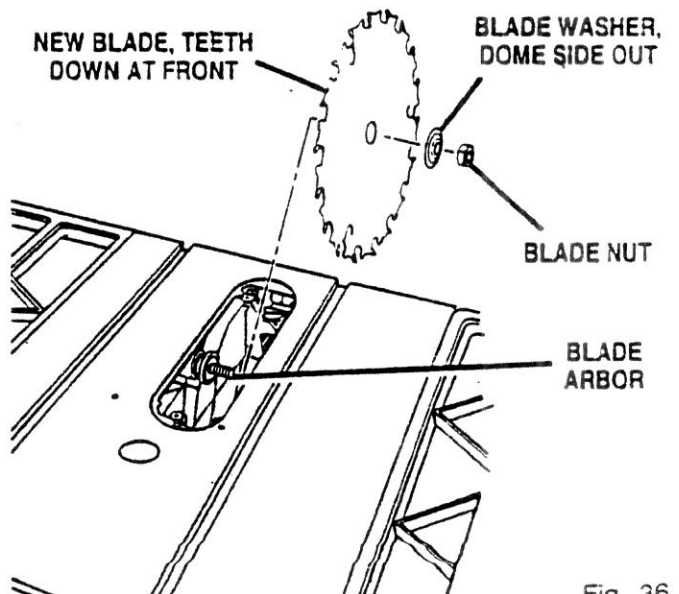
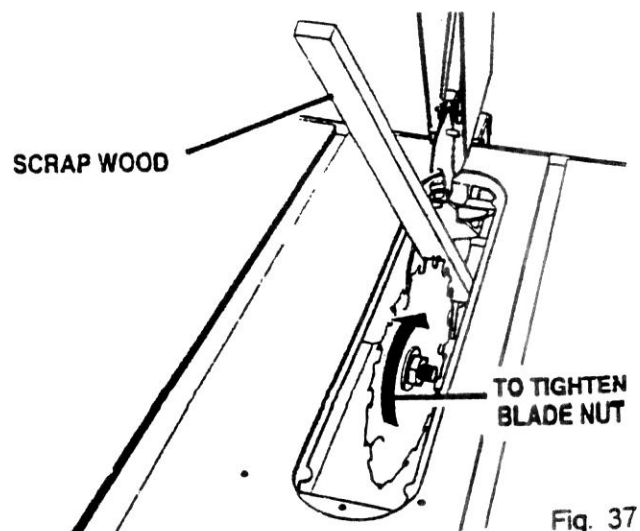

Fig. 36
Fig. 37
- To install a standard blade, place the new blade on the arbor shaft, with teeth pointing down toward the front of the saw. See Figure 36. Wedge a piece of scrap wood at the back of the blade. See Figure 37